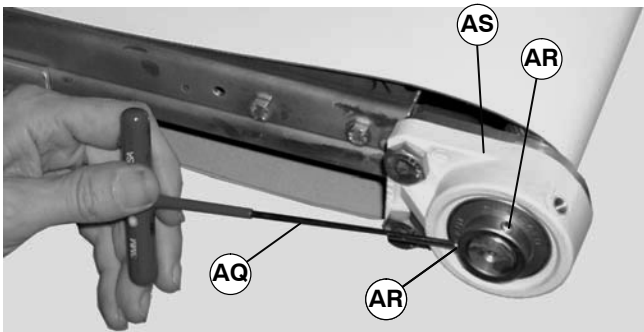

Figure 21
7. Using a 3mm hex key wrench (AQ of Figure 21), loosen two set screws (AR) on bearing and head plate assembly (AS).
- Using a 3mm hex key wrench (AQ of Figure 21), tighten two set screws (AR) on bearing (AS).